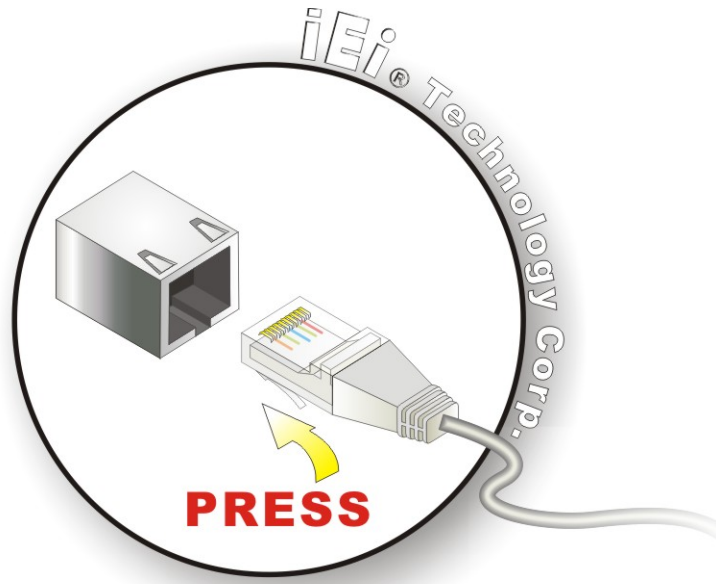

Figure 4-9: LAN Connection
Step 2: Align the connectors. Align the RJ-45 connector on the LAN cable with one of the RJ-45 connectors on the bottom panel of the POC-965 Series. See **Figure 4-9**.